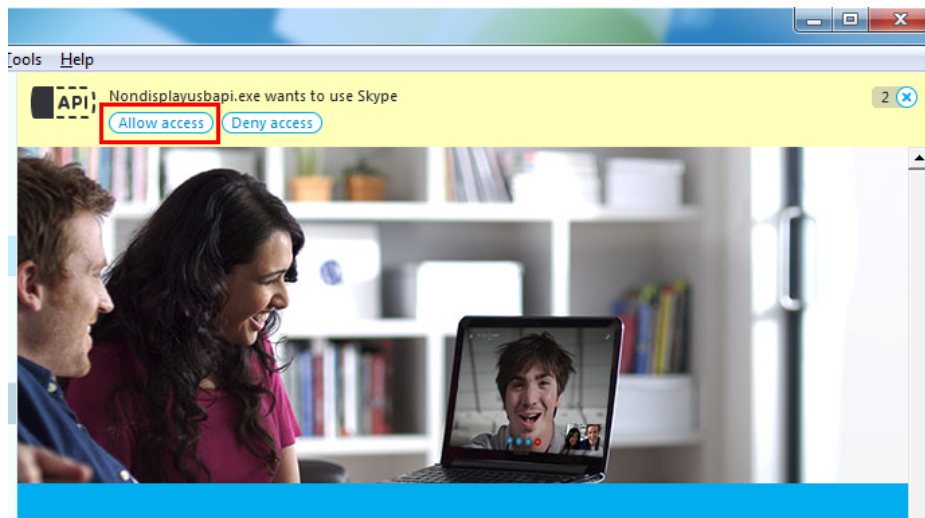

Figure 3-8: Allow API Access
Step 4: Launch Skype. Press the **Allow access** button on Skype (**Figure 3-8**) to allow handset API access.